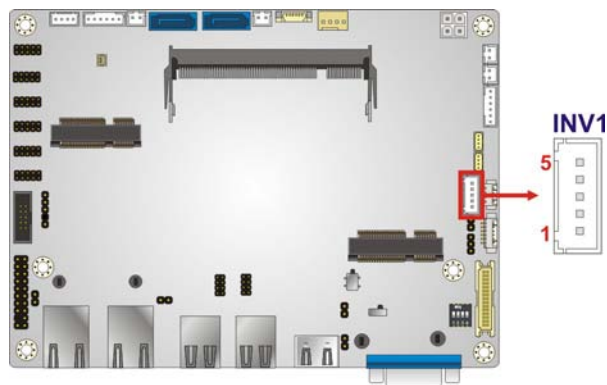

Figure 3-14: Backlight Inverter Connector Location
- CN Location:See **Figure 3-14**